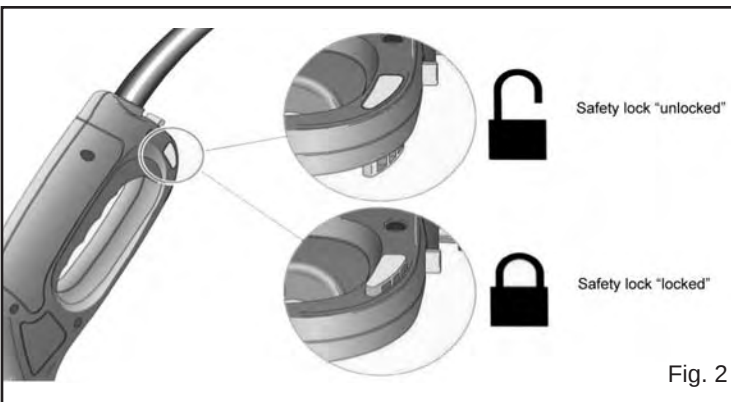

Fig. 2
3. Release gun safety if locked. (Fig. 2)